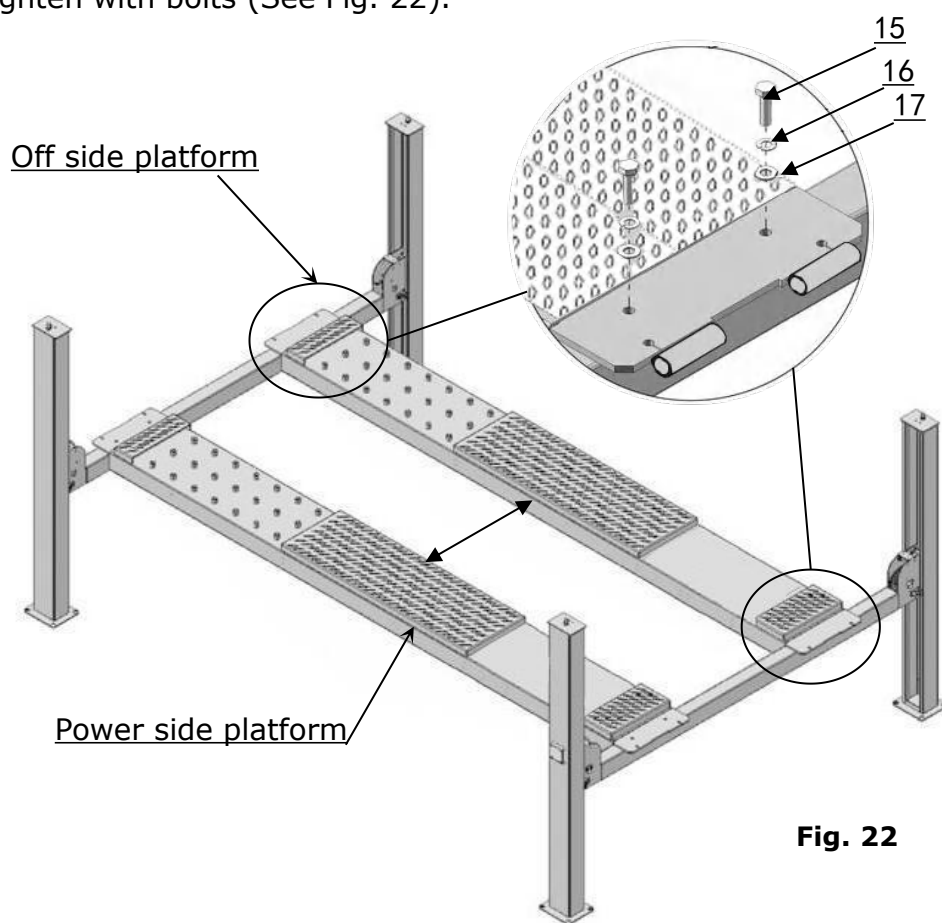

Fig. 22
2. In the same way, place the off side platform on cross beams, align the holes and tighten with bolts (See Fig. 22).